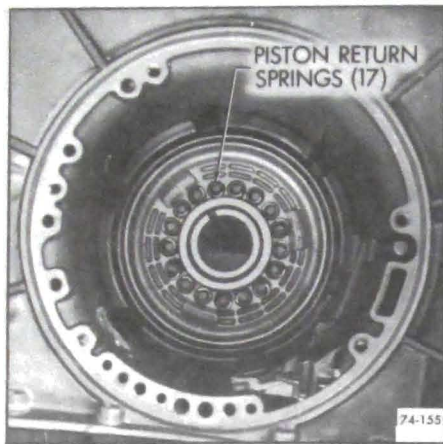

Figure 74-155
5. *Loosen nut being careful that piston seat does not catch in snap ring groove in case*. Remove tools. Remove piston seat and seventeen (17) piston return springs. See Figure 74-155.